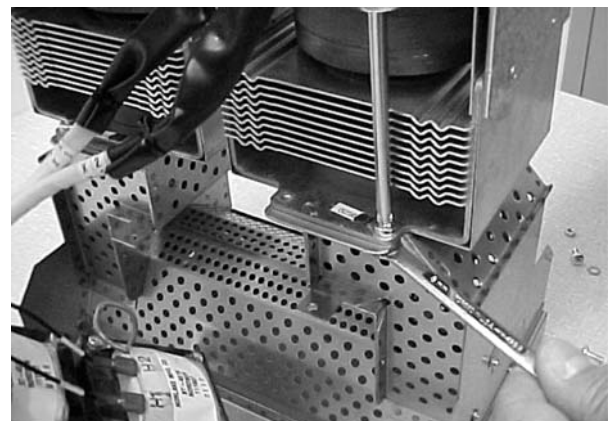

Figure 4-19 Removing the Magnetron
4. See Figure 4-19. Remove the four screws, washers and nuts that secure the magnetron to the lamphead base. Remove the magnetron.